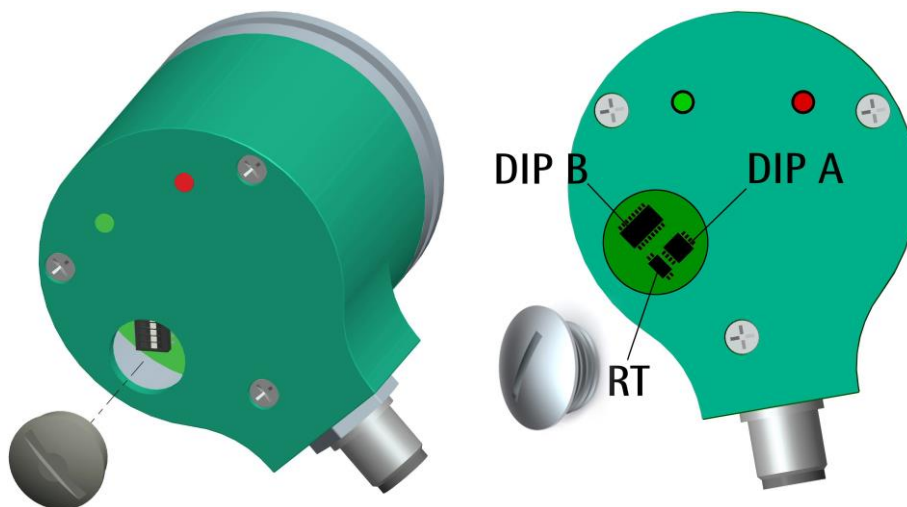

Figure 2: Reaching the DIP switches
3.5 DIP switches (Figure 2 and Figure 3)